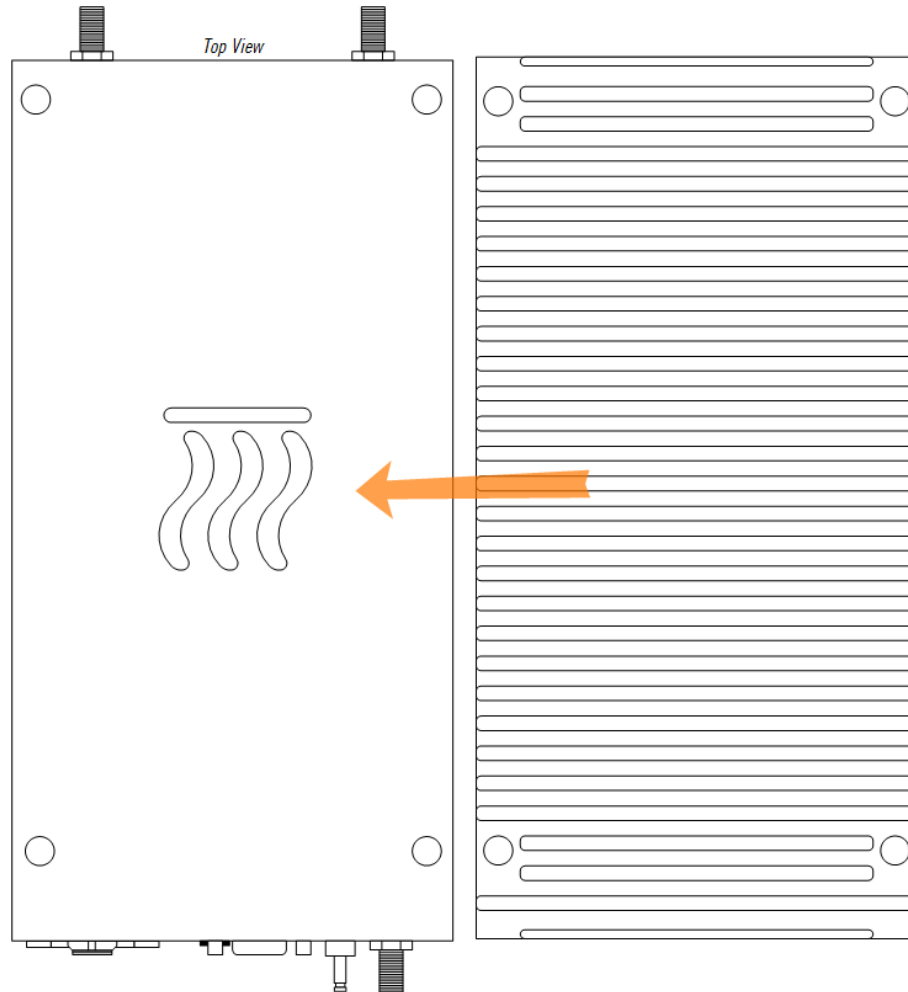

Figure 5-1 Heatsink Accessory Assembly
1. Orientate the heatsink as in *Figure 5-1* and lay the heatsink on the top face of the SOL8SDR2X2W-P, indicated by the thermal path symbol. Carefully align the screw holes.